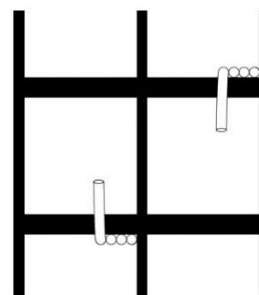

Fig 3
3. Winch with two ropes in opposite winding (fig 3)